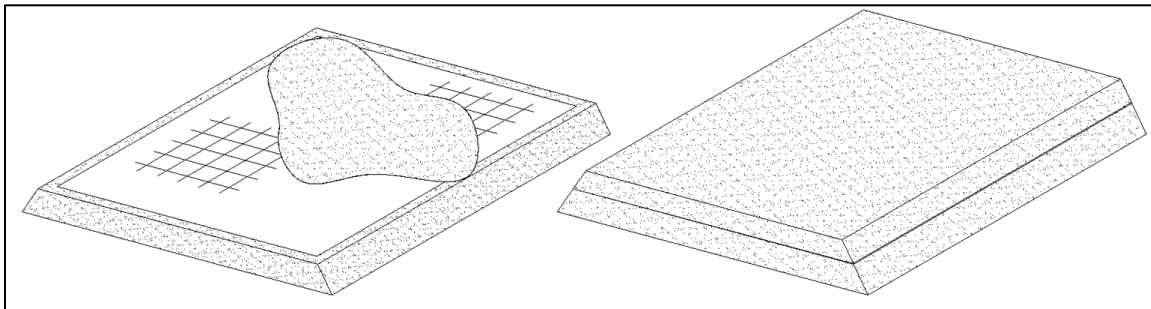

Figure 2
- After each layer of Geotextile has been placed, prepare, place, and compact the overlying layer of soil according to the construction plans and the Engineer. (Figure 2)